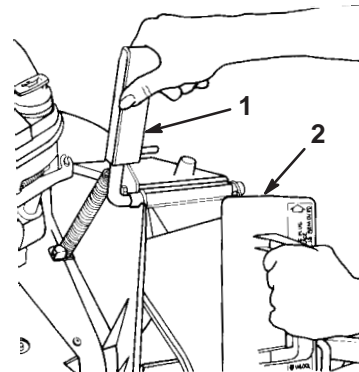

Figure 4
1. Open the discharge door by pulling forward on the handle and moving it rearward (Fig. 4). Hold the discharge door handle to prevent the spring-loaded door from closing while you insert the plug.
2. Since the plug is slightly wider than the discharge tunnel opening, rotate the plug clockwise slightly while inserting it (Fig. 4).